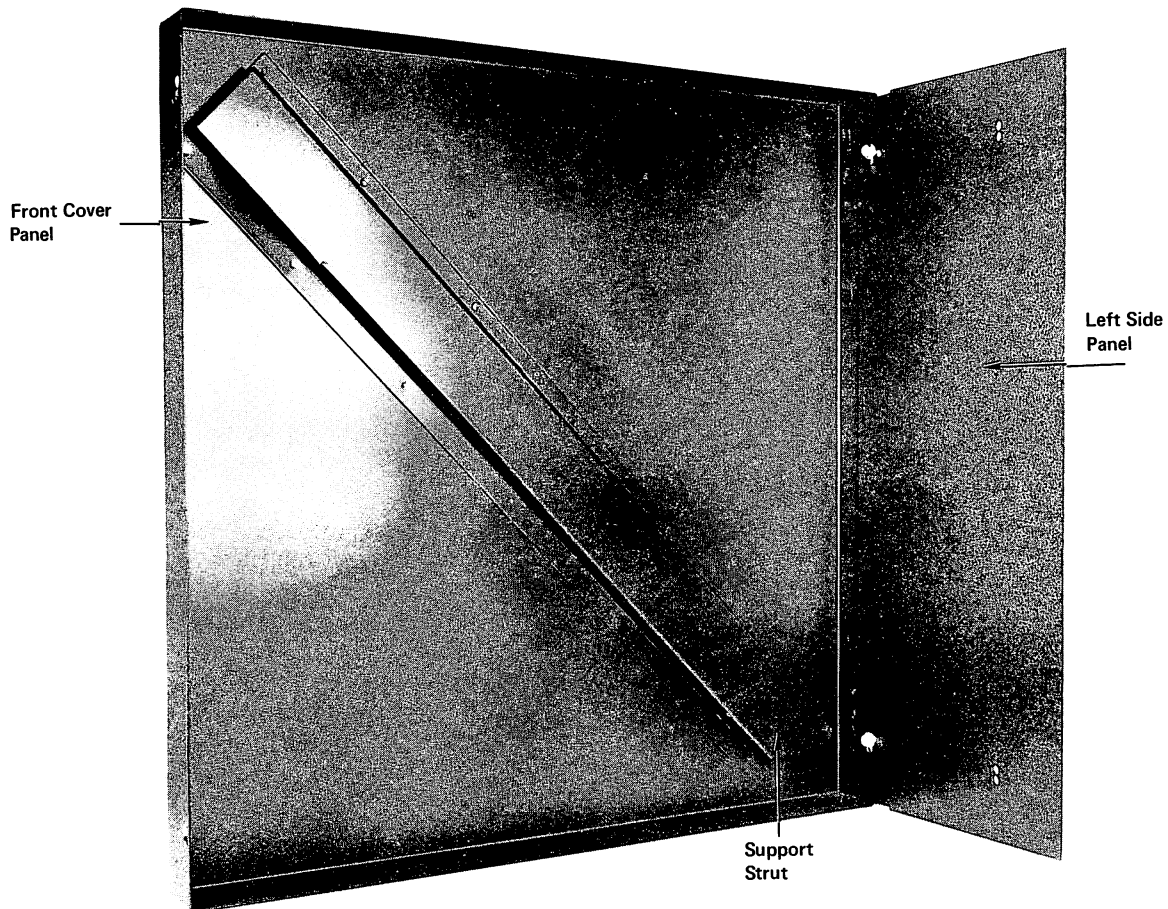

Fig. 2
1. Each side panel has a double edge on one side. Face this double edge toward the leg assembly unit when assembling. Using the sets of double holes (on both the left side panel and the front cover panel) as guidelines, set the left side panel on the inside of the front cover panel (see Fig. 2).
2. Note that the inside of the front cover panel contains a support strut. This strut is rectangular except for one end, where the strut is cut off in a line parallel to the bottom of the cover panel (see Fig. 2).